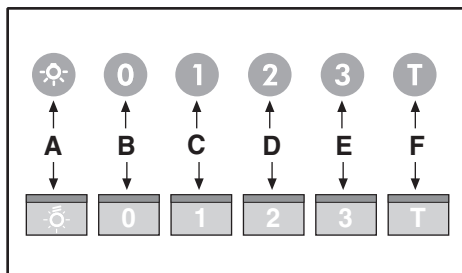

Fig.11
• Commands luminous (Fig.11) the key symbols are explained below: